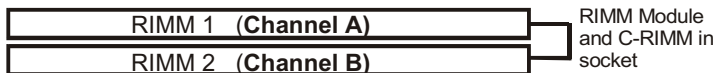
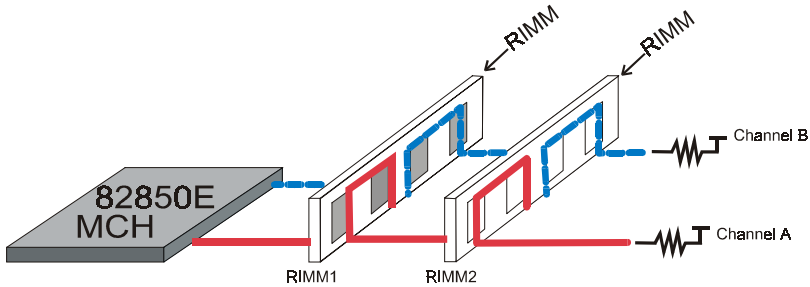

Figure 7
Figure 9: Right Base Configuration
The board supports two channels (2) 232-pin RIMMs (Rambus Interface Memory Module) as shown in Figure 7. The RIMMs can be RIMM and C-RIMM (Continuity RIMM) only. RIMM modules have Rambus channel signals as their memory interface. A RIMM module may contain up to a maximum of 16 RDRAM devices. All RDRAM devices on a RIMM must have the same timing characteristics. Empty RIMM sockets must be populated with continuity modules (C-RIMM). These modules have no memory on them and are used to propagate the channel to the next RIMM socket. Figure 9, 10 & 11 provide a general diagram of a RIMM module and installations of RIMM/C-RIMM modules. **The board must be populated 2 RIMM modules at the same time, that will boot-up the system.**
- The board supports a maximum of 16 devices on a RDRAM channel. A Channel is defined as the two RIMM Slots on the motherboard added together. Thus the motherboard has two channel. See Figure 7 for two channel RDRAM interconnections.
This section describes some basic RIMM/C-RIMM installations as described in table 1. Note that continuity Modules are required in empty sockets. Figure 9, 10 and 11 display common installations. RIMM or RDRAM signals are daisy-chained through each device on RIMM and memory module.